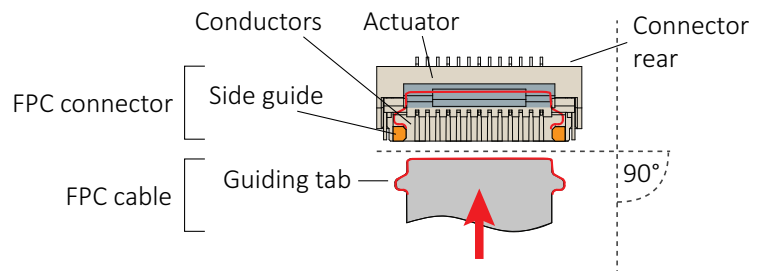
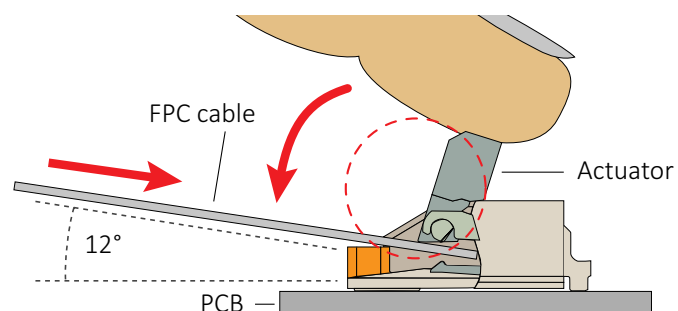

Figure 7: FPC cable and FPC connector
Figure 8: Engaging the FPC cable in the FPC connector
3. **Ensuring proper cable direction between host and camera**, take the FPC cable with conductors facing the FPC connector conductors (see Figure 7).
At a horizontal angle of 90 degrees to the connector's rear (see Figure 7) and at a vertical angle of 12 degrees to the PCB (see Figure 8), slowly insert the FPC cable into the actuator...
5. ...until cable guiding tabs are caught between connector rear and side guides (see Figure 7). Pull the cable slightly to ensure guiding tabs are properly engaged.
6. Holding the FPC cable in position, flap down the actuator to closed position (see Figure 8).